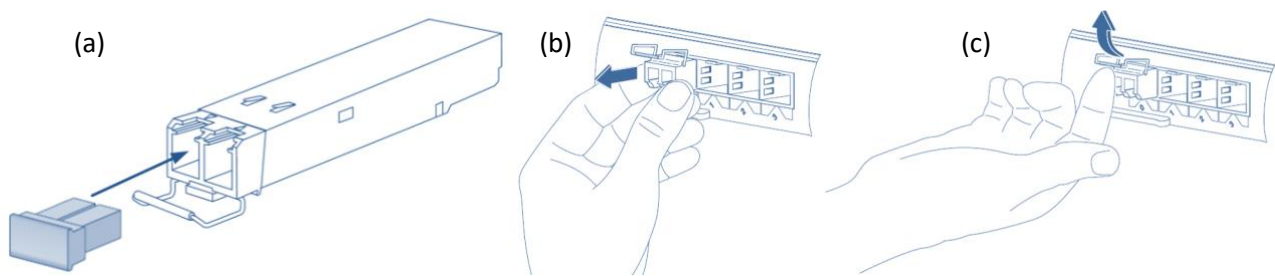

Figure 8 – Removing the SFP+ Module
3. Open the bale clasp on the SFP+ module with the index finger, or a small flat-blade screwdriver, in a downward direction, as shown in Figure 8 (a).
4. Grasp the module between the thumb and index finger and carefully remove it from the port, as shown in Figure 8 (b).
5. Insert the clean dust covers into the module, as shown in Figure 8 (c).